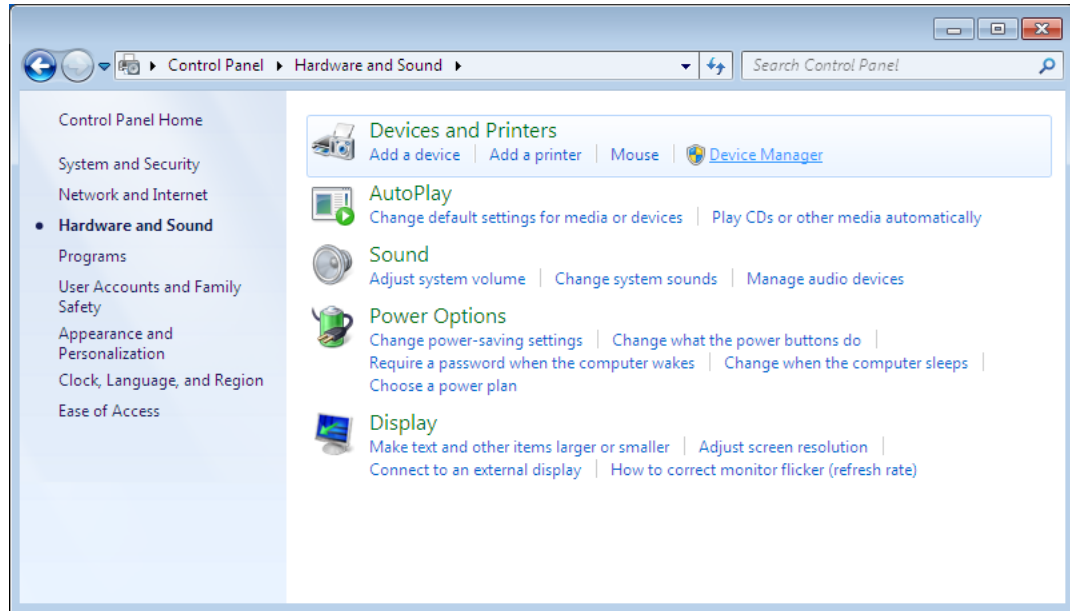

Figure 16. Control Panel Window – Hardware and Sound
1. Open the Control Panel and select **Hardware and Sound > Devices and Printers** (see Figure 16).